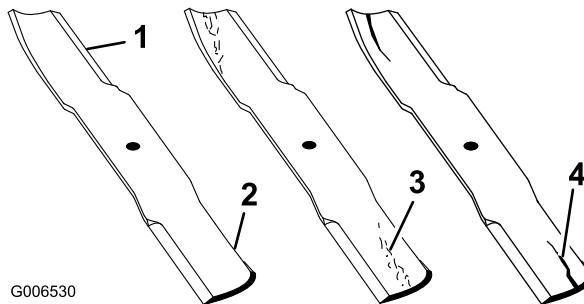

Figure 55
1. Inspect the cutting edges (Figure 55). If the edges are not sharp or have nicks, remove and sharpen the blades. Refer to Sharpening the Blades.
2. Inspect the blades, especially the curved area (Figure 55). If you notice any cracks, wear, or a slot forming in this area (item 3 in Figure 55), immediately install a new blade.